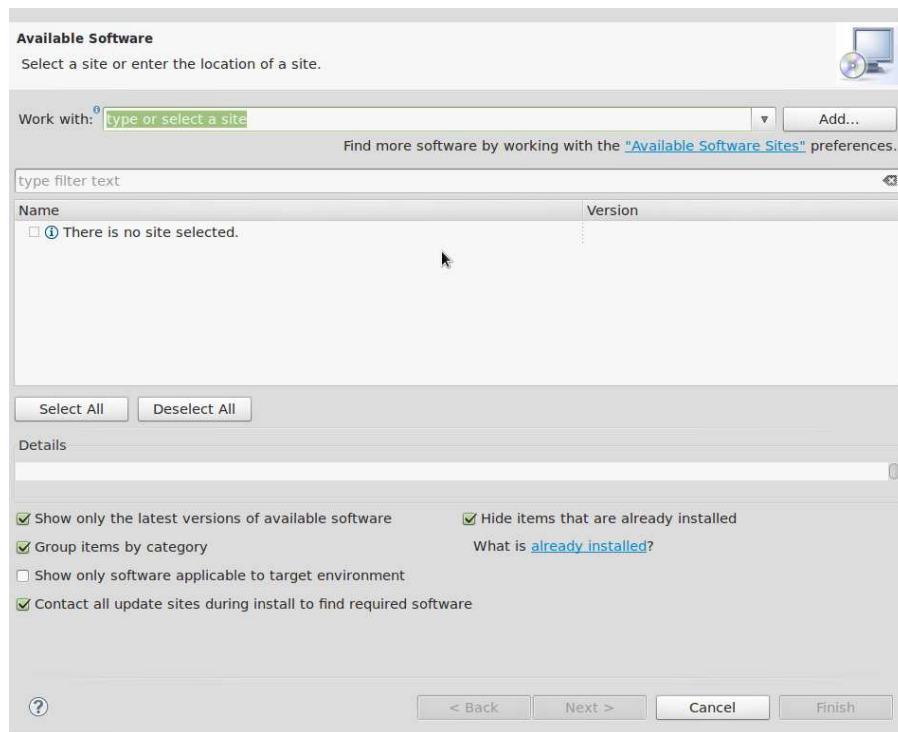

Figure 4. Eclipse - Install New Software (Linux)
6. Navigate to Help → Install New Software (see Figure 4).